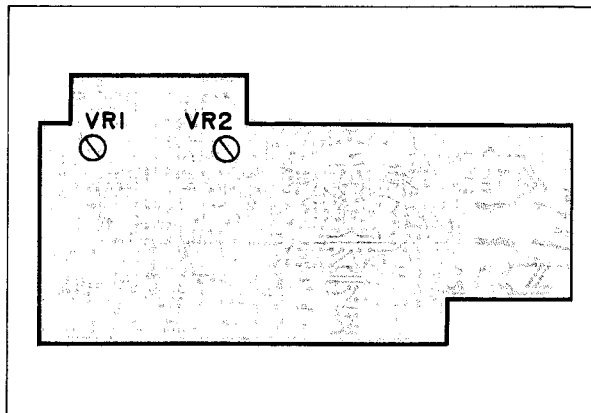

Fig. 6
9. The output level of the 10KHz signal should be 1dB higher than that of the other signals. Adjust VR-1/2 shown in Fig. 6 to achieve the specified level.
12. The indicated level on the VTVM should be $-5.5 \pm 1\text{dBm}$ (411mV). Adjust VR-3/4 shown in Fig. 6 to achieve the required level.